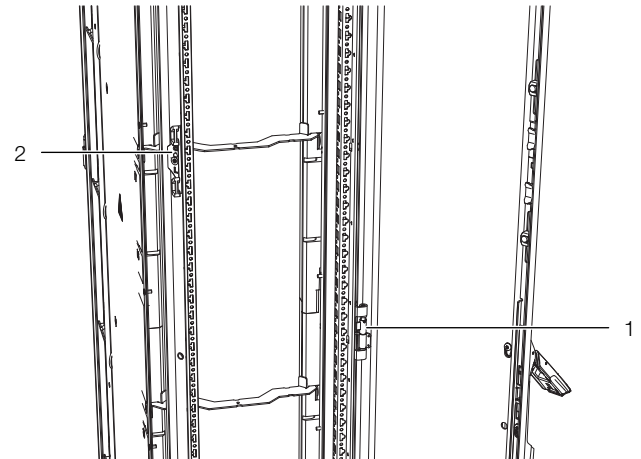

Fig. 35: Assembly components on the Liquid Cooling Package – rear view
- Dismantle the hinge pin holding fixtures (fig. 35, item 1) and corresponding fixing components (fig. 35, item 2) from the LCP Inline and reassemble at the rear of the adaptor in the same way.